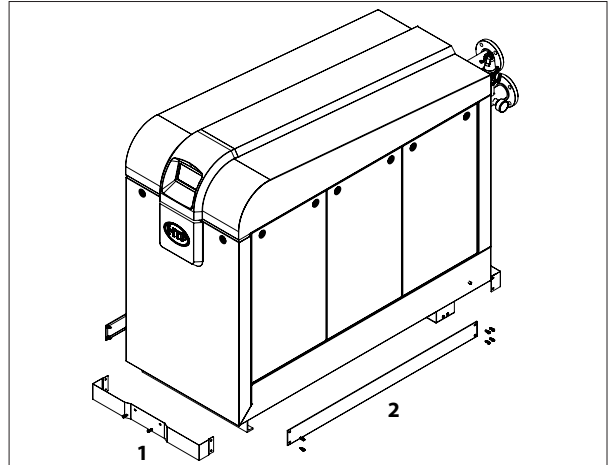

Figure 5 - 1500 - 2000 Models - Installing Decorative Skirts
**1500 - 2000 Models ONLY** - After the VWH has been installed level in the final location the decorative skirts may be installed. These can be found in the VWH cabinet. Use the included bolts to install the front skirt (1) before proceeding to the side skirts (2). See Figure 5.